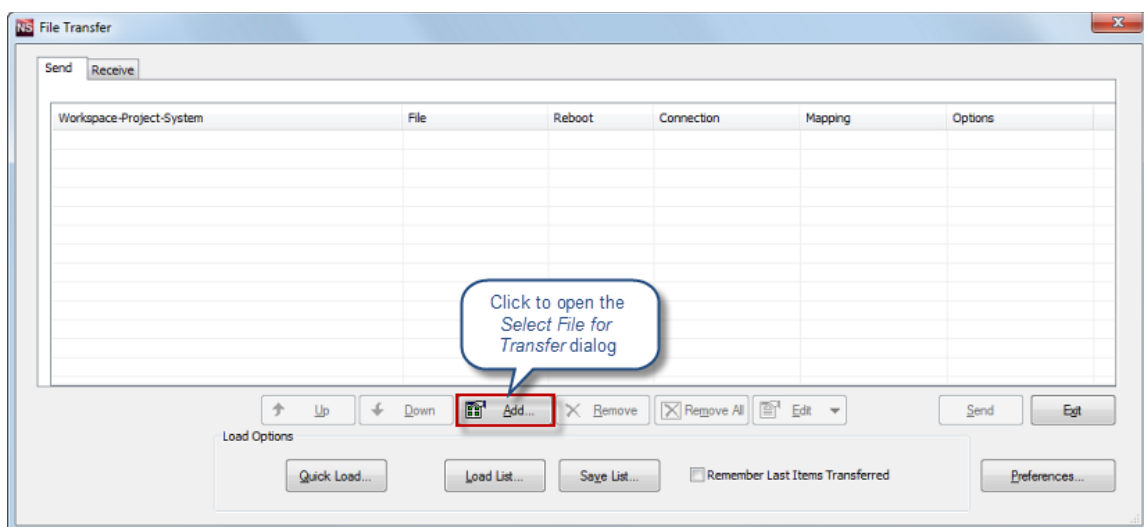

FIG. 159 NetLinx Studio 4 - File Transfer dialog
2. Select **Tools > File Transfer** to open the *File Transfer* dialog (FIG. 159):